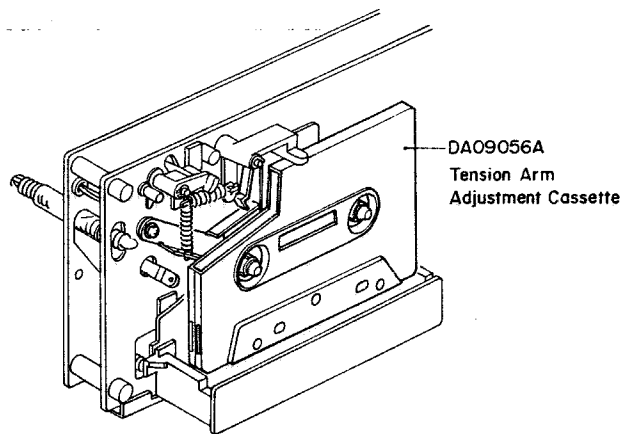
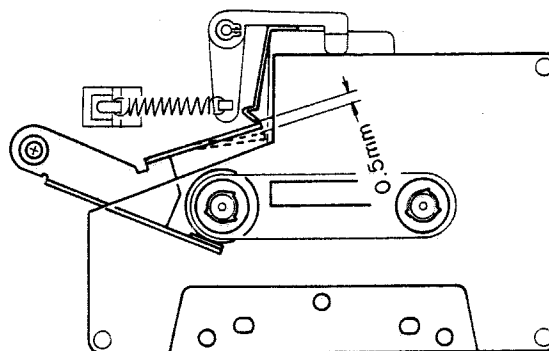

Fig. 4.13
Fig. 4.14
Refer to Figs. 4.13 – 4.16.
- (1) Load the Tension Arm Adjustment Cassette (DA 09056A) referring to Fig. 4.13.
- (2) Set the Cassette Deck in play mode.
- (3) Bend the Back Tension Arm with pliers so that the gap between the Cassette Holding Spring assembled with the Head Base Ass'y and the Back Tension Arm becomes 0.5 mm as shown in Fig. 4.14. Do not bend the pointed end of the Back Tension Arm.